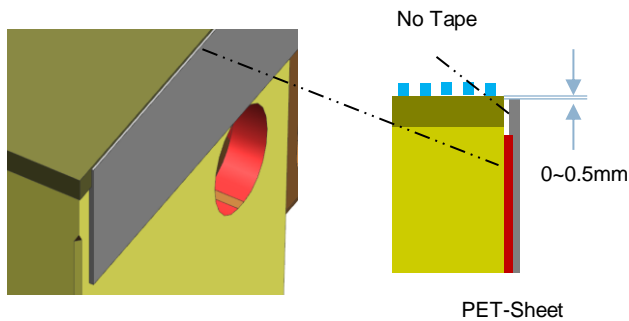

Fig.3
- ※ Attach PET Sheet as shown below.(Fig.3), The areas where there is no tape should guide the LED module.